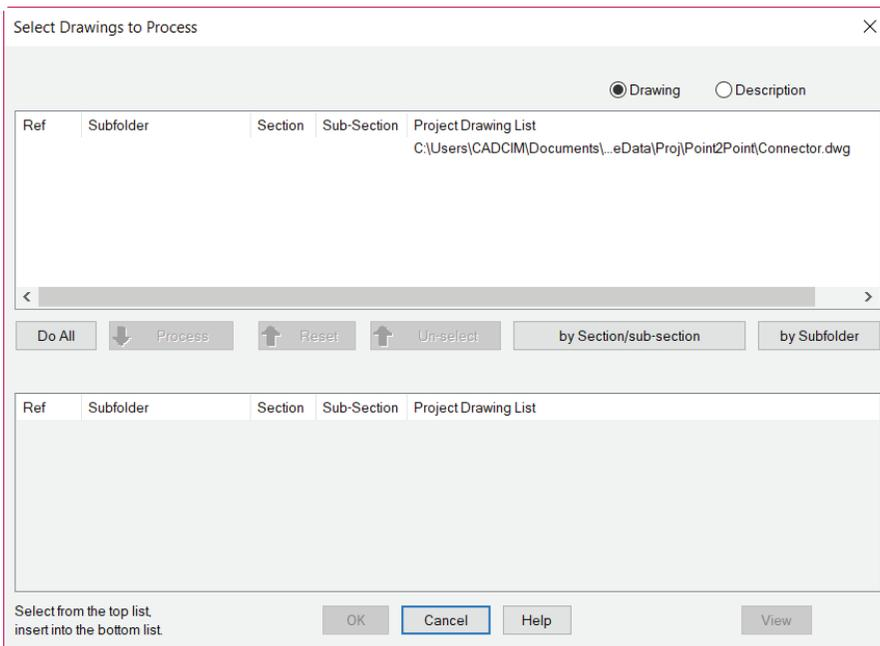

Figure 2-74 The Select Drawings to Process dialog box
5. Now, choose the **Save** button; the **Select Drawings to Process** dialog box is displayed, as shown in Figure 2-74. In this dialog box, choose the **Do All** button and then the **OK** button; the **Copy Project: Step 4 -- Enter Base Path for Project Drawings** dialog box is displayed.